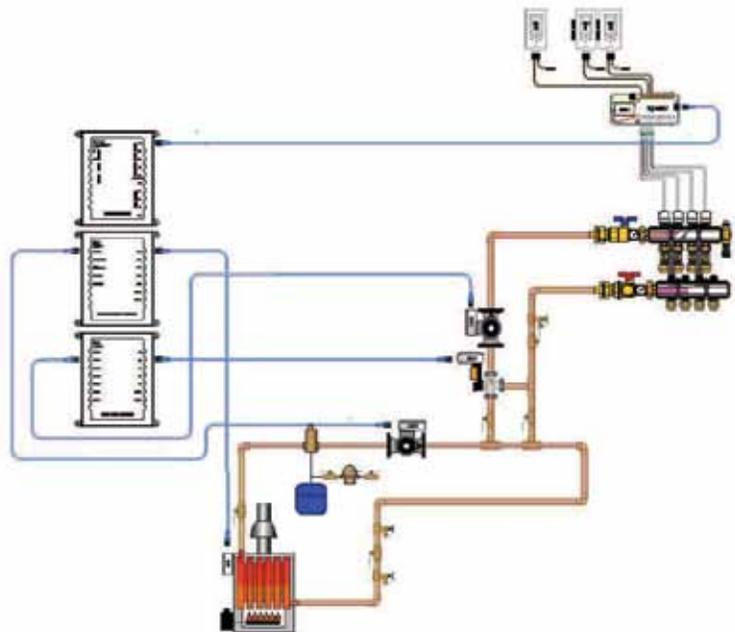

Figure 3.8-1: Radiant Floor Heating Piping and Wiring
This section provides a step-by-step example of setting up a radiant floor heating (RFH) zone. **Figure 3.8-1** shows a typical wiring and piping schematic for the Network System. This example includes three radiant zones, manifold actuators and a modulating valve that mixes cooler water with high-temperature boiler water for use with radiant floors. For clarity, **Figure 3.8-1** does not include sensors and other details.
The following steps explain how to make the proper equipment assignments based on the connections shown in **Figure 3.8-1**.
- Water Channels:** In the Radiant Floor box, enter "2." This value directly relates to the Secondary and Mixing ports on the SWT. In **Figure 3.8-1**, the mixing device and pump are connected to these ports.